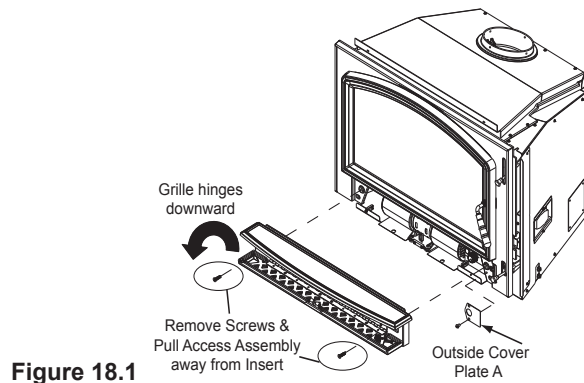

Figure 18.1
1. Swing grille down to expose the two screws (**Figure 18.1**).
10. Swing grille down to expose the two screws (**Figure 18.1**).